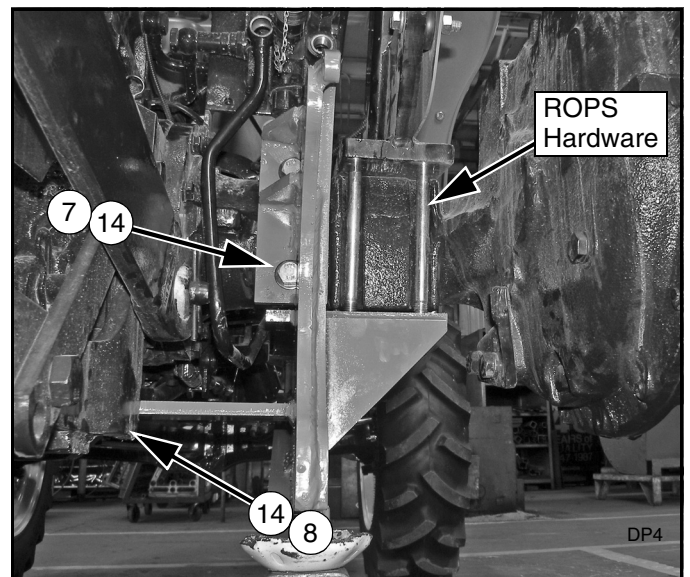

Figure 8. Right Tractor Bracket Installed, Rear Axle
4. Secure tractor bracket to the back of the rear axle using two cap screws (7) and hardened flat washers (14). See Figure 8.
5. Attach tractor bracket to the bottom of the tractor using two cap screws (8) and hardened flat washers (14).
6. Install remaining two hex flange screws (11) and hex flange nuts (18) to the loader mount or backhoe bracket.
7. Repeat steps to install left tractor bracket (2).